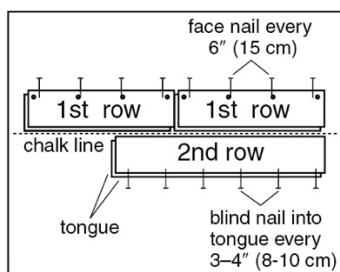

Figure 6
- In at least two places, at least 18" (46 cm) from the corner, measure out equal distance from the starting wall (Figure 6) and snap a chalk line. The measurement must be the sum of the width of the flooring plus an additional 3/8" (9.5 mm) to allow for 1/4" (6 mm) expansion space and the width of the tongue. Allow 1/2" (13 mm) expansion when installing floating floors.